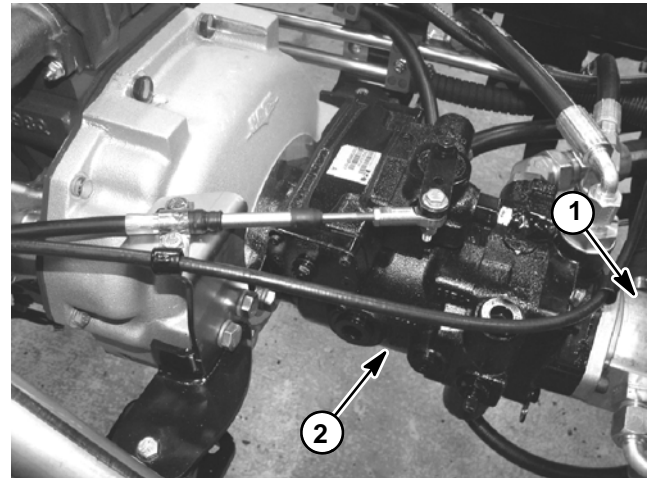

Figure 45
7. Support the gear pump to prevent it from falling (Fig. 45). Remove two (2) cap screws and flat washers retaining gear pump to piston pump.
8. Carefully pull gear pump from piston pump and lower it out of the machine. Locate and retrieve O-ring (item 2) from between pumps.